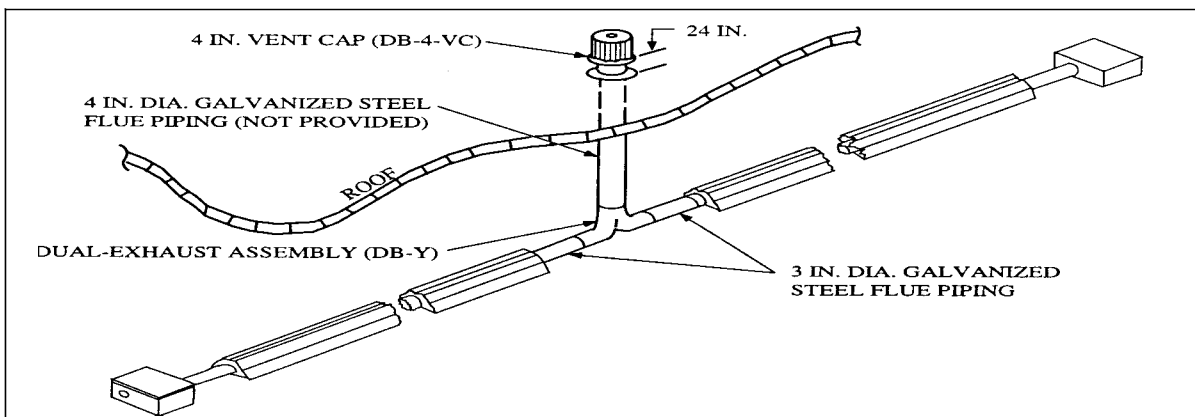

Figure 1-16
- If two heaters are to be vented together a dual-exhaust assembly (#DB-YSM) and a 4 in. vent cap (4-DSK) must be used (Figure 1-16). These parts are available from Detroit Radiant Products (Optional Parts in DRP Accessory Guide). Two heaters commonly vented must share the same thermostat.